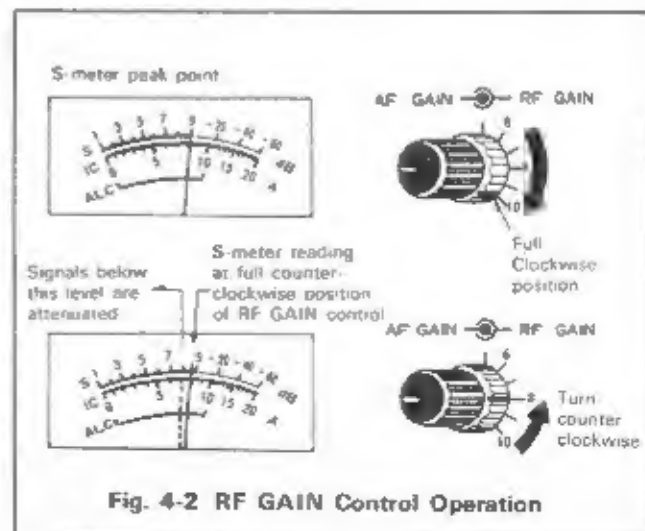

Fig. 4-2 RF GAIN Control Operation
4.1.3. RF GAIN CONTROL (Fig. 4-2)